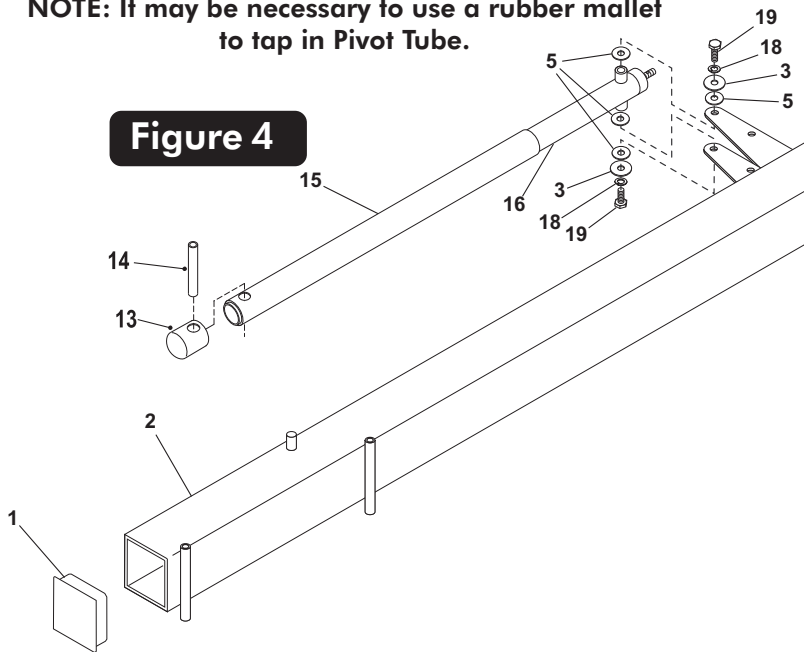

Figure 4
2. Slide Actuator Sleeve (#15) over Actuator (#16) and place Actuator Cap (#13) on top. Align holes in all 3 parts and slide Pivot Tube (#14) through holes in Actuator Cap (#13) Plastic Actuator Sleeve (#15) and Steel Actuator (#16) until equal amounts stick out through both sides of actuator. See **Figure 4**.
3. Lay Pole (#2) on its side on two padded saw horses. Secure Actuator (#16) to Pole (#2) using one bolt (#19), split lockwasher (#18), washer (#3) and two plastic washers (#5) to thread into each side of Actuator. See Figure 4. Tighten bolts tight.